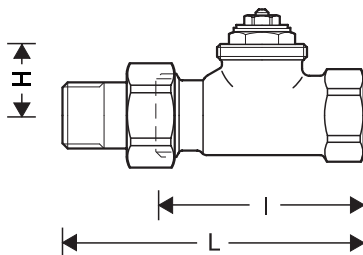

Fig. 7. Straight
| Straight to EN215 (D) (Fig. 7) | 10 | • | 1.45 (1.69) | Rp 3/8" | 59 | 85 | — | 25 | — | V2000DUB10 |
| Straight to EN215 (F) (Fig. 7) | 15 | • | 1.10 (1.29) | Rp 1/2" | 55 | 82 | — | 26 | — | V2020DUB15 |